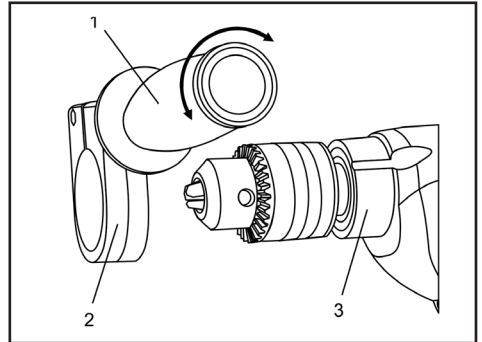

Fig.6
Install the auxiliary handle (1) for two handed operation of the drill (Fig. 6). This is particularly important for drilling in concrete.
1. Rotate the auxiliary handle counter clockwise to open the mounting collar (2).
2. Slide the auxiliary handle collar over the chuck and fully onto the drill housing (3).